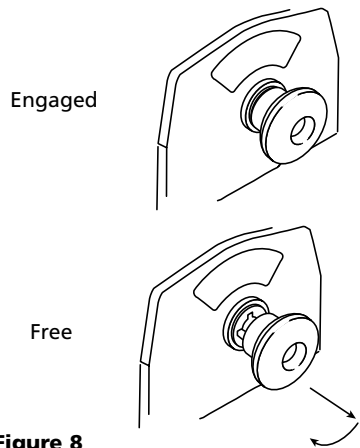

Figure 8
Pull and turn the clutch knob to the "Free" position as shown in Figure 8. If there is a load on the wire rope, the clutch knob may not pull out easily. **DO NOT FORCE THE CLUTCH KNOB.** Release tension on the clutch by jogging out some of the wire rope. Release the clutch and pull out the wire rope and secure to anchor or load. Check that there are at least five (5) turns of wire rope left on the drum. Re-engage the drum by returning the clutch knob to the "Engaged" position. (See Figure 8).